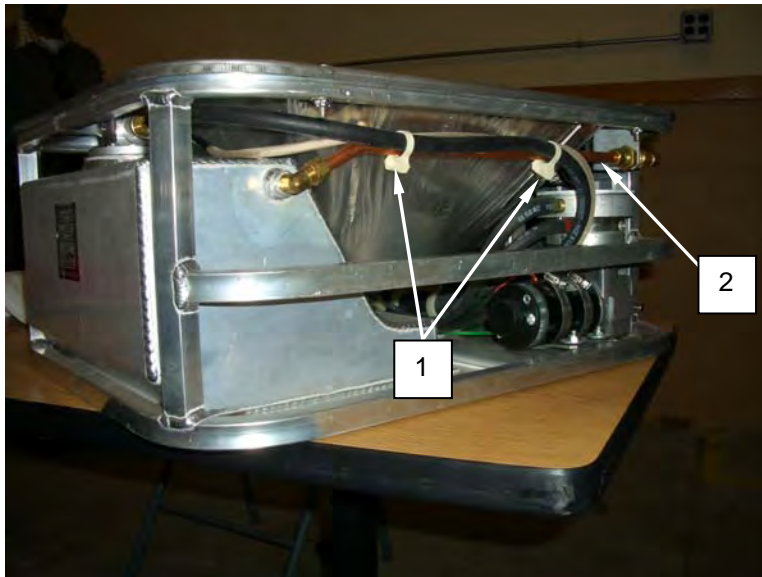

Figure 2. Replace Chassis Mounted Cable Clips and Hose Clamps.
1. Locate the two cable clamps (Figure 2, Item 1) that secure the hose and electrical wires to the fuel line (Figure 2, Item 2).